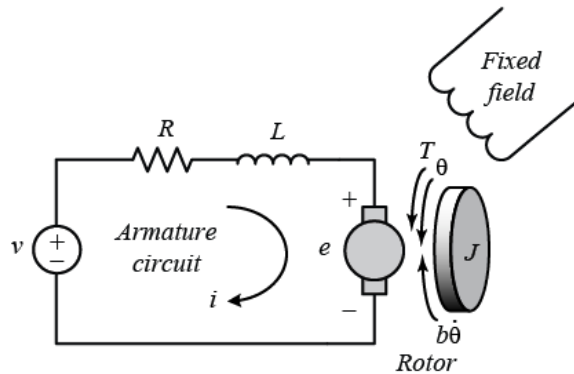

Figure 2: Motor
- [1 point] Obtain the dynamic equation of the DC motor speed show in Figure 2.